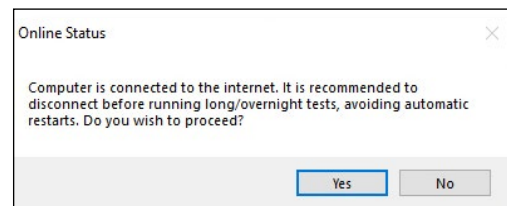

Figure 7: Internet Connection Warning
3. The values in the bottom righthand corner of the **Setup** tab are calculated using the required entries. Select the **Calculate** button to perform these calculations before selecting **Next** in the bottom left hand corner. A dialogue box (Figure 7) will appear. It is recommended that the unit be disconnected from the internet to avoid test interruptions from automatic Windows updates.